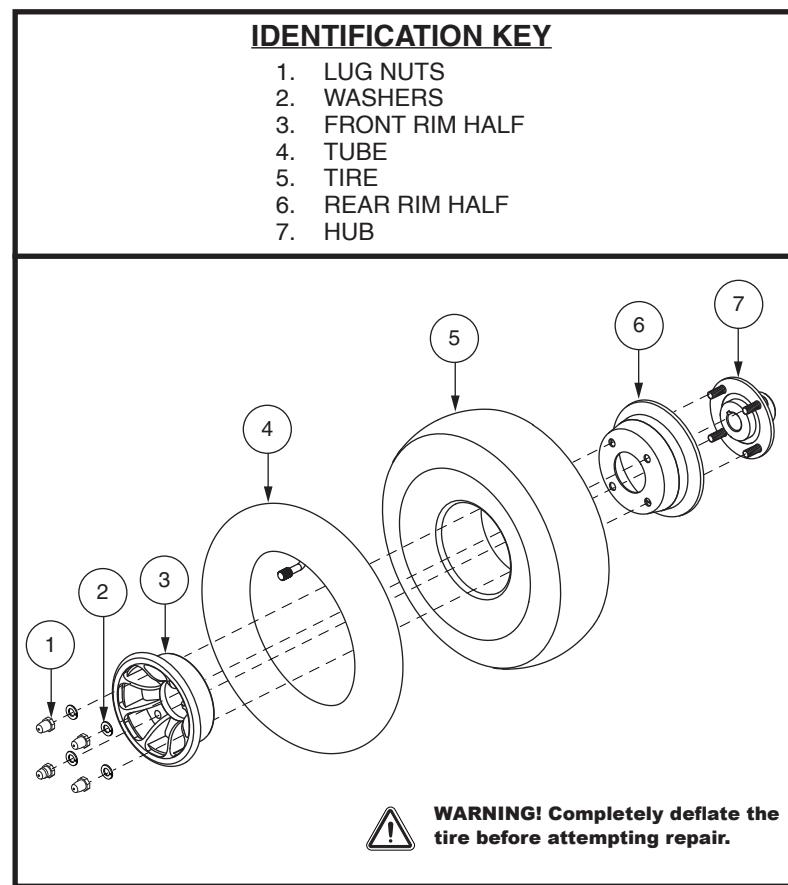

Figure 24. Pneumatic Drive Wheel Disassembly/Assembly
- Remove the lug nuts and washers and separate the rim halves. See figure 24.
- Remove the old tube from the pneumatic tire and replace it with a new tube. See figure 24.